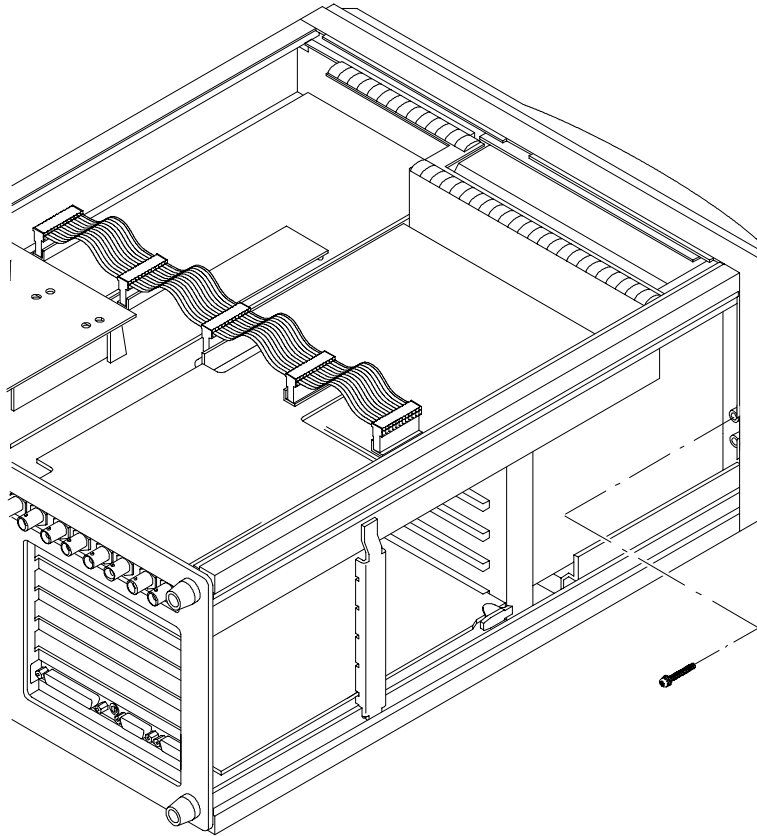

Figure 3: Locating the bezel retaining screws
- a. Remove the four screws holding the bezel to the front frame (see Figure 3). There is one screw on each side and one each in the top and bottom of the bezel.
- f. Reinstall and tighten the four screws that hold the bezel to the front frame. See Figure 3 on page 6.